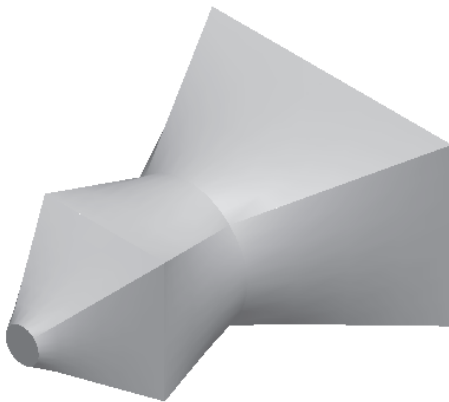
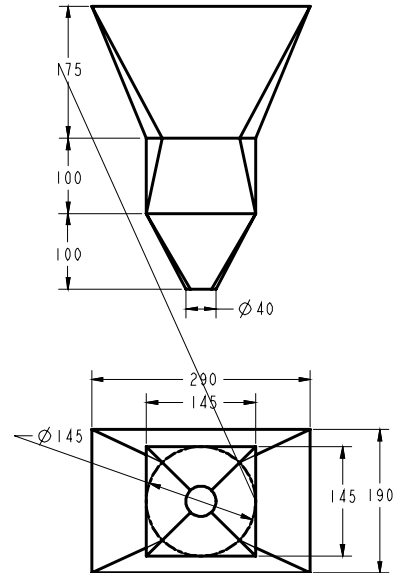

Figure 8-110 Isometric view of the model
Figure 8-111 Top and front views of the model
In this tutorial, you will create a blend feature shown in Figure 8-110. The two views of the blend feature are shown in Figure 8-111 with dimensions. After creating the model, you will redefine it such that the straight blending is changed into a smooth blending.
- a. Examine the blend feature and determine the number of sections in this feature. The blend consists of four sections, refer to Figure 8-111.
After the sketches of all sections are completed, you need to specify the depth between each section. The dimensions for depth between each section can be referred to from Figure 8-111.